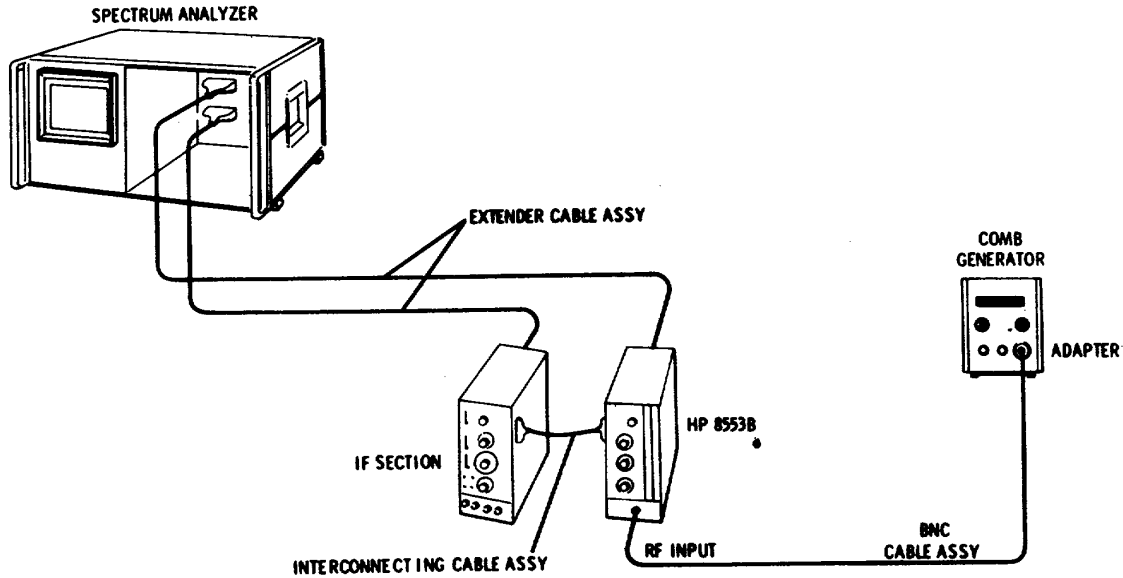

Figure 5-3. Tuning Range Adjustment Test Setup
1. Connect the setup in Figure 5-3. Make the following control settings: